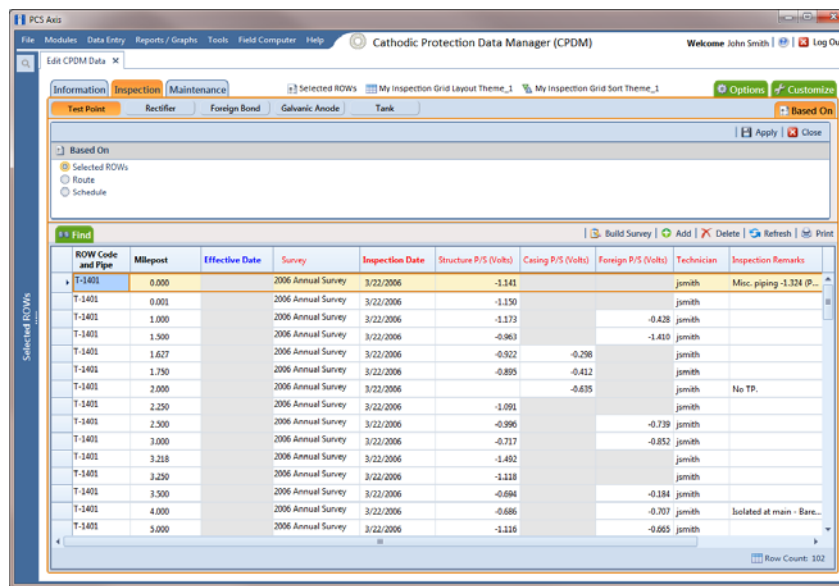

Figure 6-23. Based On Selected ROWs
- a Click the **Based On** tab  to open the based on panel and then complete the following steps (Figure 6-23, page 184):